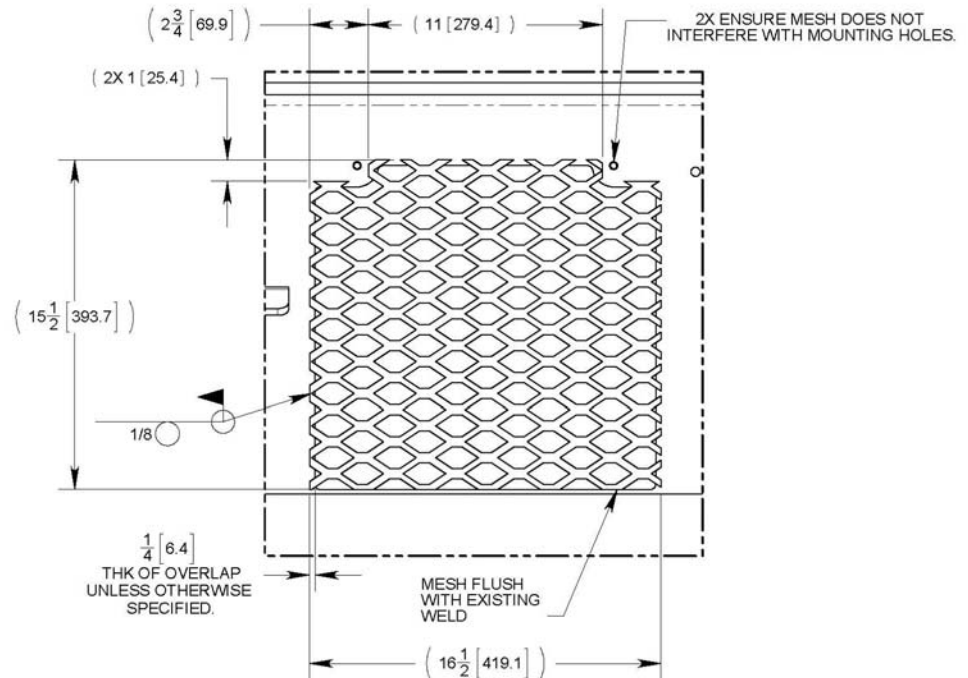

Figure 5
Step 9: Weld new mesh grating as defined by Figure 5. Measurements below are in (inches [mm]).